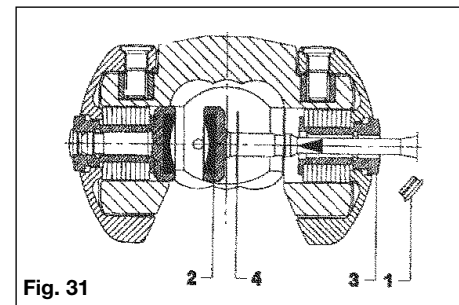
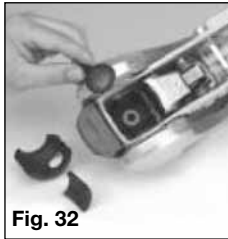

Fig. 31
Fig. 32
- Remove protective caps (Fig. 31/Item 1) with the aid of a small screwdriver.
- Press worn out pad inwards and remove (use punch and hammer) (Fig. 31/2)
present) and press in as far as it will go (Fig. 31/Item 4 & Fig. 32).